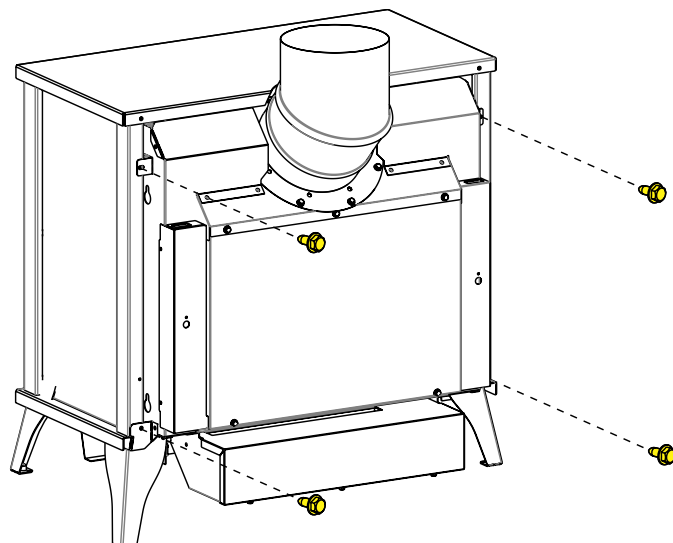

Figure 33
3. Remove outer assembly. Remove (4) 5/16" Hex Head screws at the rear of the outer casing assembly as shown in **Figure 33**.